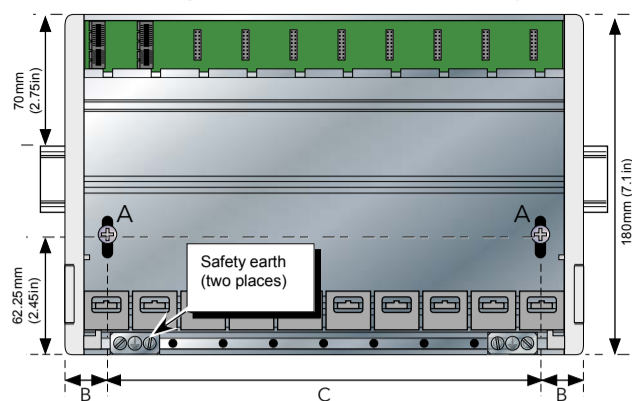

Figure 1: Backplane dimensions
As shown in Figure 1 & Table 1, the E+PLC400 backplane is available in four sizes, accommodating 0, 4, 8 and 16 I/O modules respectively.
- Using a suitable Pozidriv screwdriver, loosen the base screws ('A' in Figure 1) and allow them and their associated base retention clips to drop to the bottom of the screw slot.
- Fit the instrument onto the top edge of the DIN rail, and use the screwdriver to slide the screws (A) and associated clips upwards as far as they will go towards the top of the screw slots.
- Hold the base horizontally on the panel and mark the position of the two holes on the panel (for centres, see Figure 1, above).